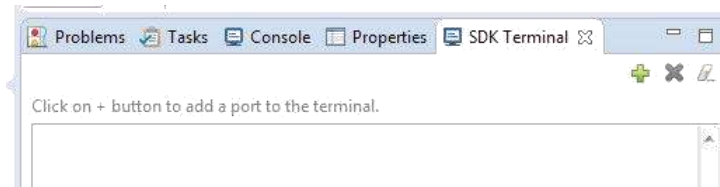

Figure 41: SDK Terminal Tab
3. Although the system is up and running (check the LEDs), there is no way to see printouts unless we connect to the board via a Terminal. This can be done in SDK. Select **SDK Terminal** tab in the lower/Console region, as shown in Figure 41, then click on + to connect to a serial port.